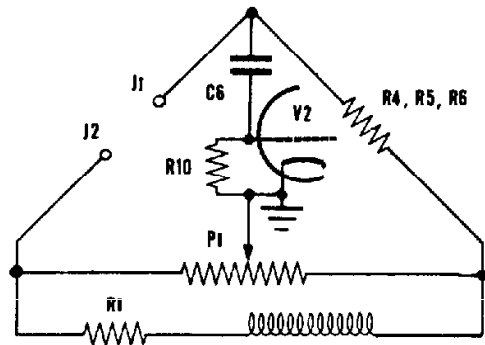
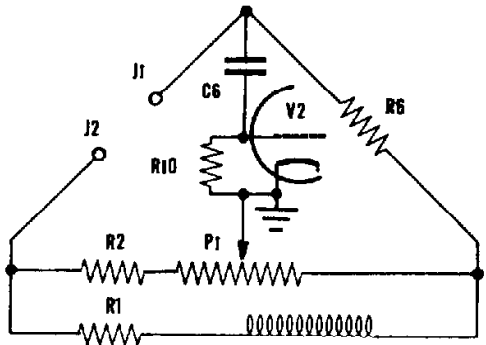

Fig. 4
Fig. 5
- Fig. 4. Bridge circuit for ".5Ω - 500Ω" range (R4), "50Ω - 50,000Ω" range (R5), and "5000Ω - 5MΩ" range (R6).
- Fig. 5. Bridge circuit for "5MΩ - 500MΩ" EXPanded range. R2 expands resistance measurement range as compared to circuit of Fig. 4.